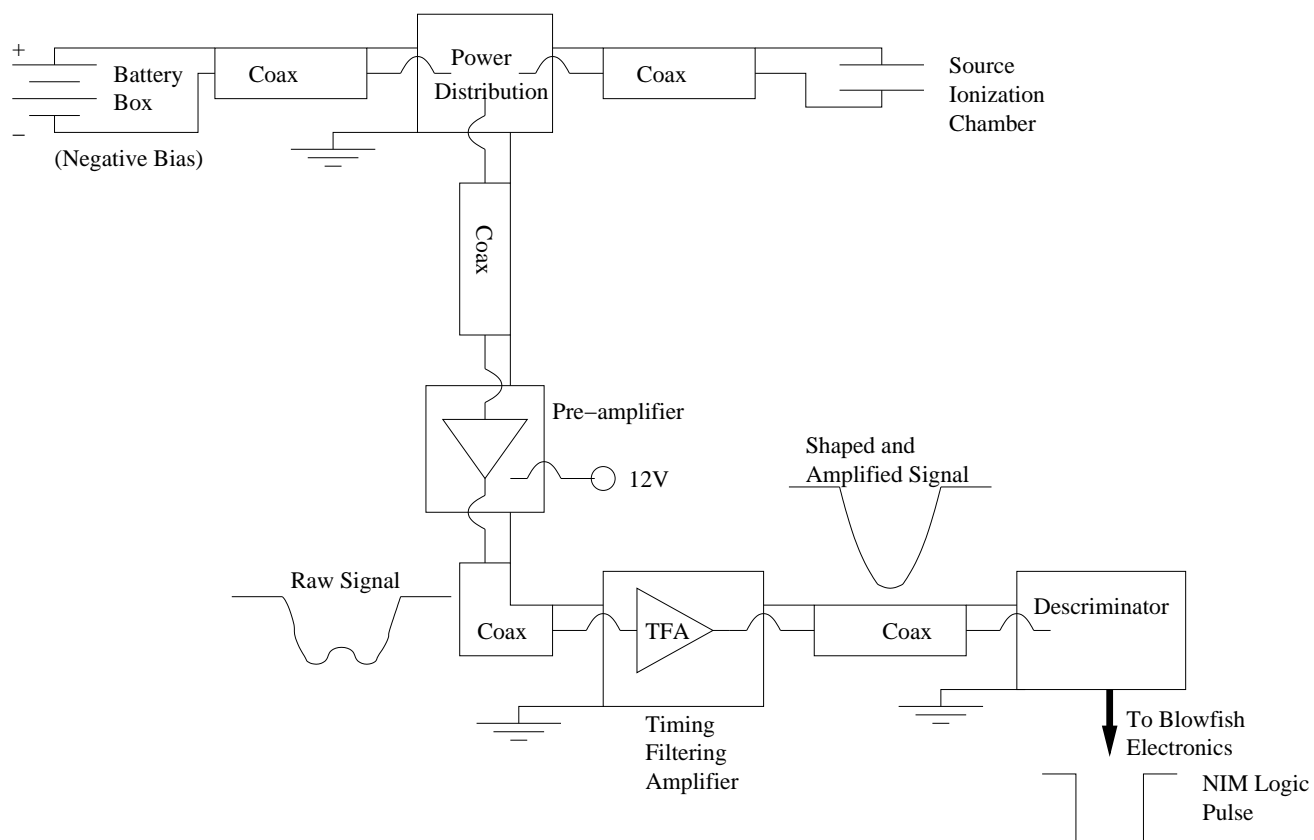

Figure 4: Diagram of the Ionization Chamber's Signal Conditioning Electronics.
The ionization chamber is powered by a 300V Eveready number 493 battery. The battery is contained inside an aluminum box. It is connected to a switch and a fine adjustment system using banana cable connectors. The connector on the outside of the battery box is BNC type with the center pin biased negatively. The battery box connects to a power-distribution box. The power-distribution box has an SHV type connector so a BNC to SHV adapter is required. An electronics diagram is shown in figure 4.
3. Connect the electronics as shown in figure 4.